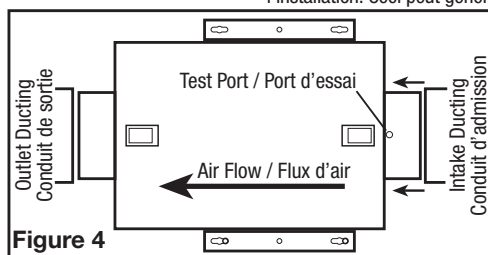

Figure 4
- Connect the ducting to the fan's duct collar (**Figure 4**). Seal ducting to housing with appropriately rated tape. Use screws or suitable clamps to secure in place. Make sure the fresh air intake is connected to a properly installed intake port that is a suitable weather hood with insect screen to protect air intake. It is recommended that low restriction termination fittings be used.